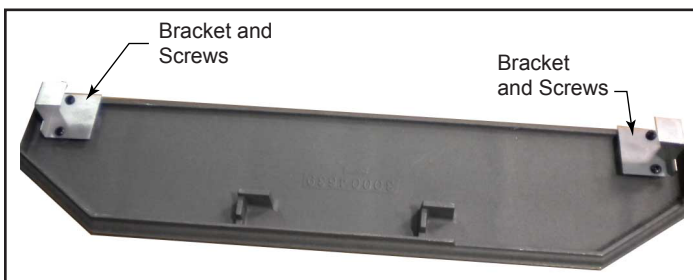
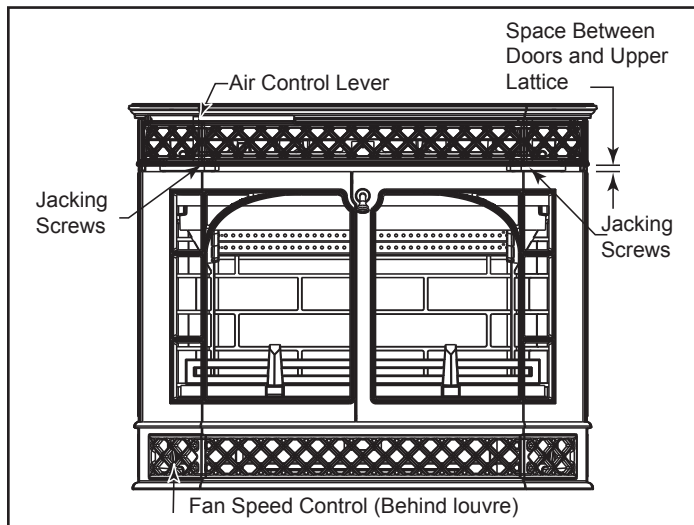

Figure 8 - Secure bracket to mantel with two (2) Philips screws.
Figure 9 - Merrimack Large Insert controls.
4. Route the blower power cord. Run the power cord out the left or right side of the insert. Remove the two (2) louvre doors (Figure 9) or access doors. Remove the screw and washer from each side holding the ashlip to the front. If you run the power cord out the left side, remove the two (2) screws holding the rheostat bracket to the fan housing. Insert grommet nearest fan in the slot on the fan housing, left or right side. Reattach rheostat bracket with the two (2) screws removed earlier. Remove the cover plate and insert the provided grommet into the slot. Reattach the cover plate.
5. Install Mantel and Access Door. For enamel units: Remove the prepackaged mantel and install the two (2) brackets to the underside of the mantel using four (4) 1/4-20 x 3/8" Phillips head black screws already installed in the mantel. (Figure 8) The brackets can be found in the stove. Remove the screws and use to attach the brackets. For classic black units: Remove the tie strap holding the mantel in place. The brackets are already attached to the mantel. Unwrap the two (2) pre-assembled access doors and snap into place. If the spacing between the doors and upper lattice is not even, you can pull the doors mantel off and adjust the upper lattice. Screw the two (2) jacking screws that contact the front up or down as needed. (Figure 9)
All Merrimack Large Insert controls are conveniently located on the front. (Figure 9)
Figure 9 shows the automatic setback control. Move the primary air control lever all the way to the left. Push the primary control about one more inch to the left to open the air shutter (the lever will spring back automatically when released). The shutter will remain open only if the stove is below its proper operating temperature. Once open, the primary air control lever may be adjusted to any desired position. Once the stove heats up to its proper operating temperature, you will here a clicking sound confirming the shutter has closed. This returns the stove to the output setting of the primary air control.